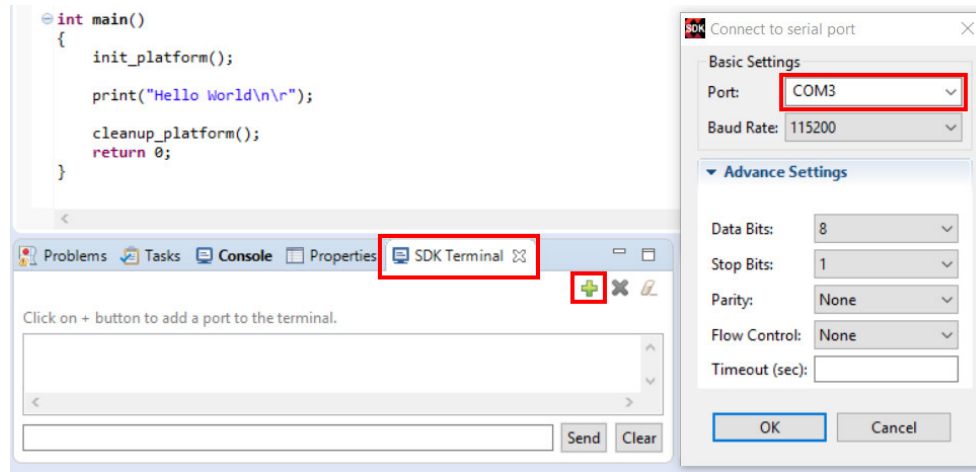

Figure 15: Connecting the PYNQ board to the serial port
25. Click on the **Terminal** tab to bring the terminal window forward, then click on the **Connect to Serial Port** icon to bring up the serial port settings window. Select the COM port that the **PYNQ** board is connected to and make sure the BAUD rate is set to 115200. Leave the default settings for the rest of the fields and click **OK** to connect to your board. See Figure 15 below. Go to the Windows Device Manager to find which COM port the **PYNQ** board is connected to. Alternatively, use **Tera Term** instead of the **SDK** terminal.